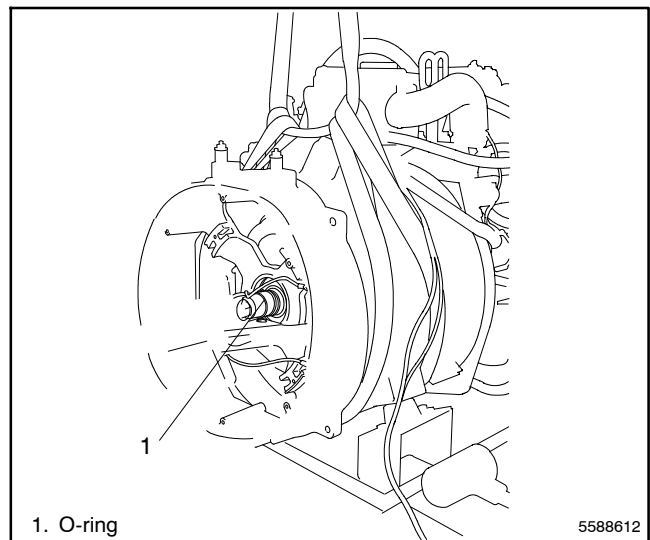

Figure 15-12 Stator Installation
5. Apply multi-purpose grease to the O-ring and install in the end bracket bearing bore. See Figure 15-12. Use a sling to support the stator assembly while installing the stator over the rotor. Be careful not to damage the rotor.